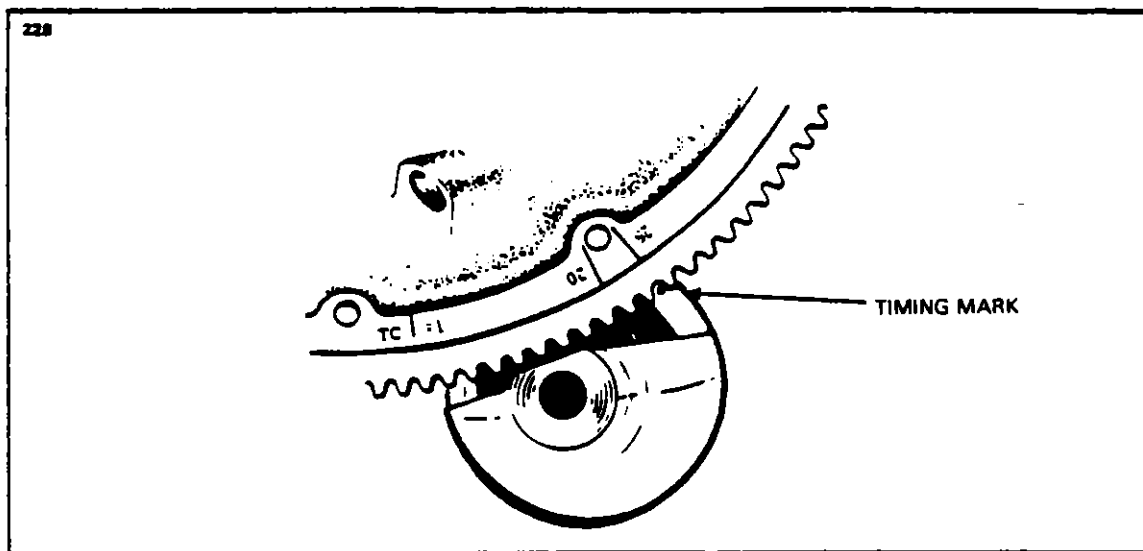

FIGURE 7-15. ENGINE TIMING MARKS
- b. Remove the top spark plug from No. one cylinder. Place the thumb of one hand over the spark plug hole and rotate the crankshaft in direction of normal rotation until the compression stroke is reached. The compression stroke is indicated by a positive pressure inside the cylinder tending to lift the thumb off the spark plug hole. In this position both valves of No. one cylinder are closed. Turn the crankshaft opposite to its normal direction of rotation until it is approximately 35 degrees BTC on the compression stroke of No. one cylinder. Rotate the crankshaft in its normal direction of rotation until the 25 degrees mark on the back of the starter gear and the crankcase parting surface are aligned, or the marks on the front of the starter ring gear and the drilled hole in the starter housing align. (Refer to Figure 7-15)